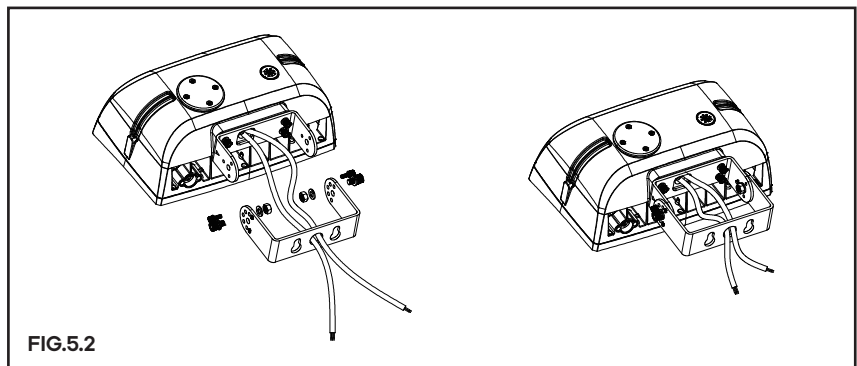

FIG. 5.2
Step 2: Tighten the brackets and screws. (Figure 5.2)